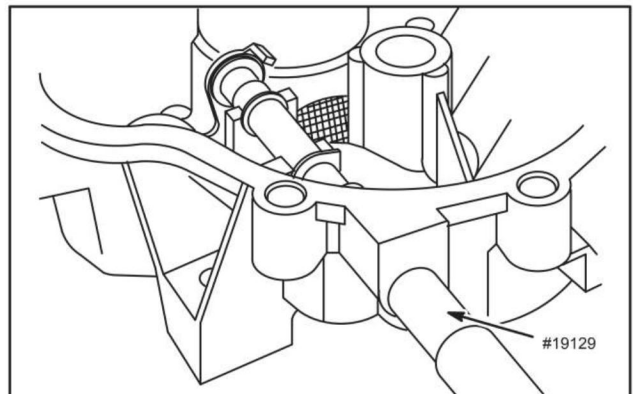

Fig. 13 – Install Governor Shaft Bushing
2. Using Tool #19129 press in bushing until it bottoms, Fig. 13.